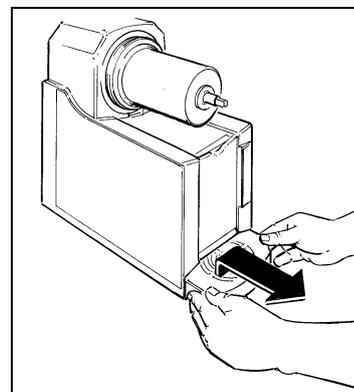

Fig. 19
- Remove the drip tray by moving it upward and pulling it outward (fig.19).